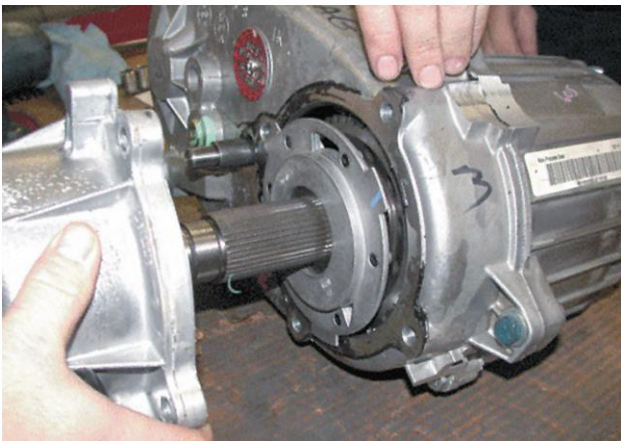

Figure 4. The lubricating oil pump is visible after the cover and bearing assembly have been removed.
- Disassembly. Figures 4 and 5.